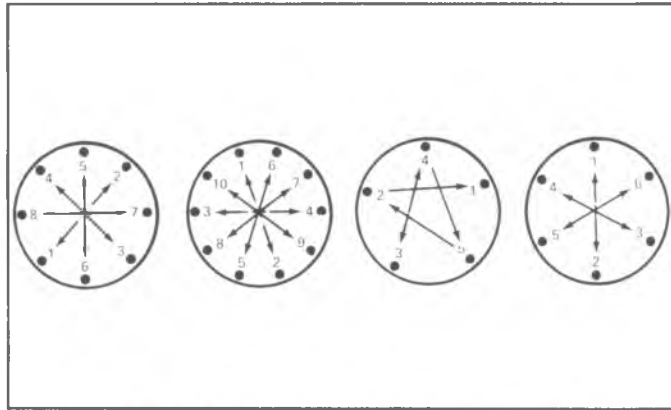

Fig. 3E-9--Wheel Nut Tightening Sequence
3. Torque nuts to specified torque in sequence shown in Fig. 3E-9.